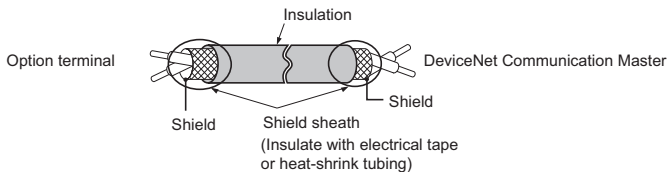

Figure 17 Prepare Ends of Shielded Cable
1. Prepare the communication cables as shown in Figure 17.